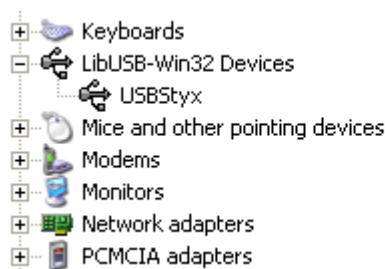

Figure 18. USBStyx Driver Verification Using Device Manager
5. Verify the proper installation of the USBStyx driver using the Device Manager. Note that the first driver item, NI-VISA USB Devices, will disappear and a new item, LibUSB-Win32 Devices will appear, as Figure 18 shows.